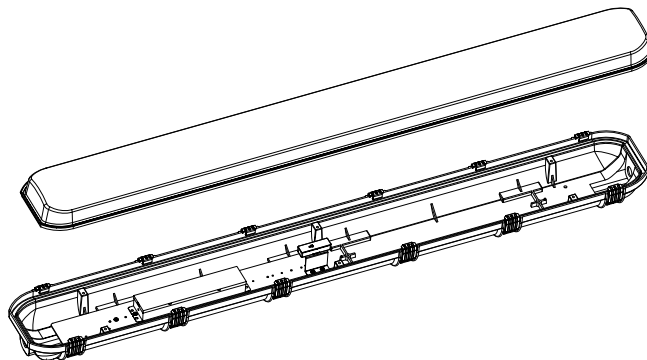

Fig 7
3. The sensor has been installed successfully as shown in Fig. 7.
3. Le capteur est correctement installé, comme illustré à la figure 7.